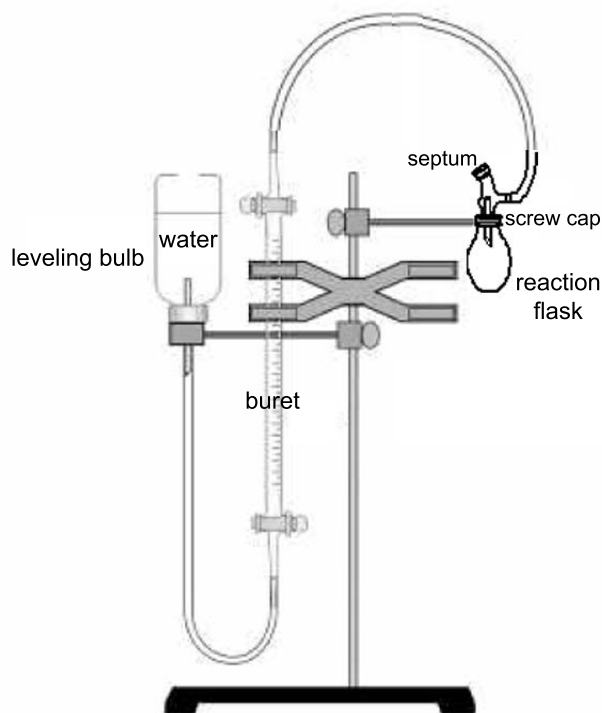

Figure 1: Experimental Set-up with Leveling Bulb
4. Now you are ready to test your theoretical calculations. Make sure your equipment is set up according to Figure 1, shown on page 3.